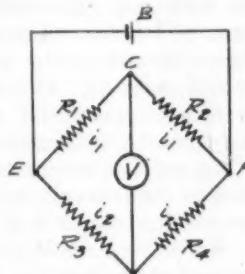
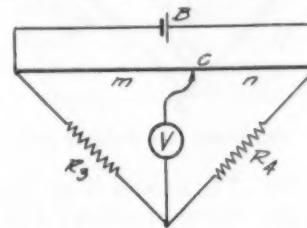

Fig. 1. Principle of Wheatstone Bridge
Fig. 2. Wheatstone Bridge with Slide Wire
The radio measuring equipment here to be considered is an application of the Wheatstone bridge to radio work. Its theory will be given here briefly for the benefit of those radio fans that are not familiar with it. Fig. 1 represents a network of four resistances, R_1 , R_2 , R_3 and R_4 , connected as shown. Across two terminals C and D is connected a very sensitive instrument such as a galvanometer or delicate voltmeter. A battery B is connected between the other two terminals, E and F . Now current from the battery has two paths to flow through: (1) From battery B to E through R_1 to C through R_2 to F and back to the battery; and (2) From battery B to E through R_3 to D through R_4 to F and back to the battery. Thus the same current flows through R_1 and R_2 . Let us call this current i_1 . Also the same current which flows through R_3 flows through R_4 . Let us call this current i_2 .
Let us suppose that such an adjustment has been made. The voltmeter V will therefore not be deflected. The currents through the different resistances are shown in Fig. 1. Since point C is
Suppose then, that in place of the resistances R_1 and R_2 we connect a uniform resistance wire l as in Fig. 2, with a sliding contact from the voltmeter running along the length of the resistance wire, called a "slide wire." It will be observed by comparing Figs. 1 and 2 that these two networks are identical, except that in place of a resistance wire, namely m in Fig. 2, and in place of R_2 we have another portion of a resistance wire, namely n . However m
In other words all we require for such a measuring apparatus is a wire of uniform diameter along which a sliding contact can be made, one standard resistance R_4 , and an indicating device. If the wire is laid along the length of a ruler between E and F , say along a meter stick having 100 divisions, then no matter where the sliding contact is we can tell at a glance what m and n are. Suppose that the slider is moved along the wire and that a balance is secured at 43, counting from E , Fig. 2. Then m is 43 and n is 100 minus 43 or 57. Thus knowing what R_4 is, and what the ratio of m to n is, we can immediately tell what the unknown resistance R_3 is.